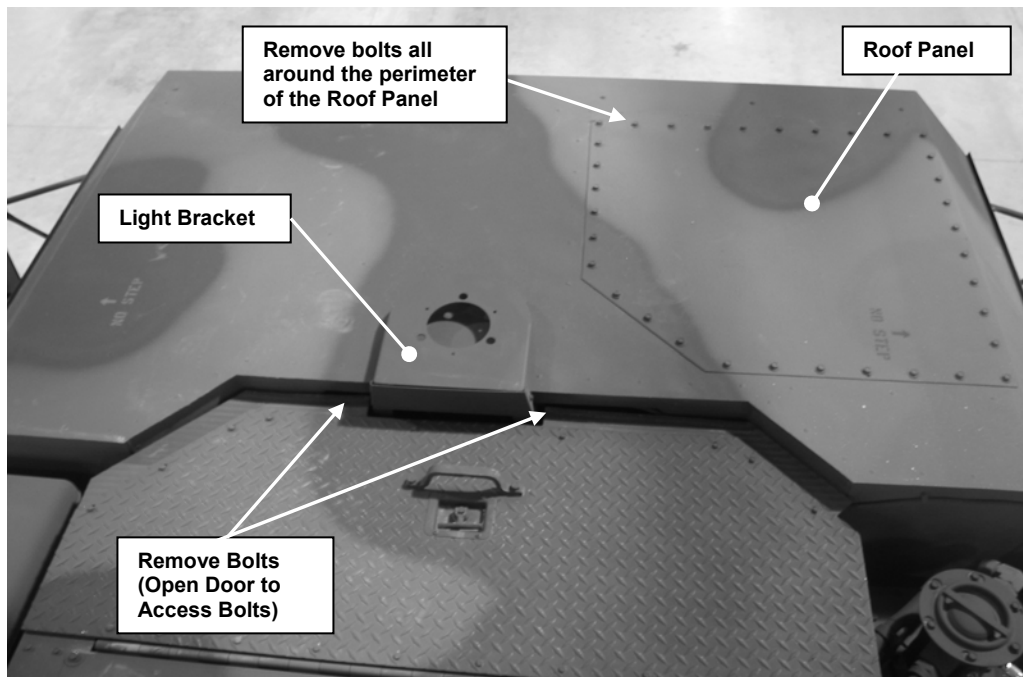

Figure 11. Roof components to be removed.
- s) Remove the Light Bracket located on top of the Cab (see Figure 11). The Light Bracket is attached to the back side of the cab with four bolts. Open the access door to reach their location (see Figure 11). Remove the bolts, and then re-install them once the bracket has been removed to fill the holes.
- t) Remove the Roof Panel shown in Figure 11. This is done by unscrewing all of the bolts located around the perimeter of the Panel. The Panel may have some sealant between its bottom surface and the top of the cab; if so, it may be necessary to pry around the edge of the Panel to remove it.